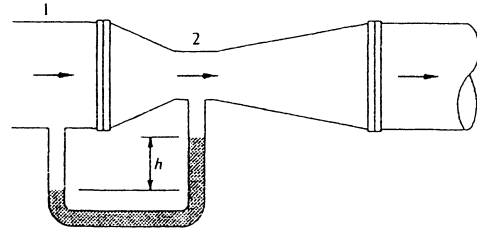

Fig. P3.165
**3.165** A *venturi meter*, shown in Fig. P3.165, is a carefully designed constriction whose pressure difference is a measure of the flow rate in a pipe. Using Bernoulli's equation for steady incompressible flow with no losses, show that the flow rate  $Q$  is related to the manometer reading  $h$  by